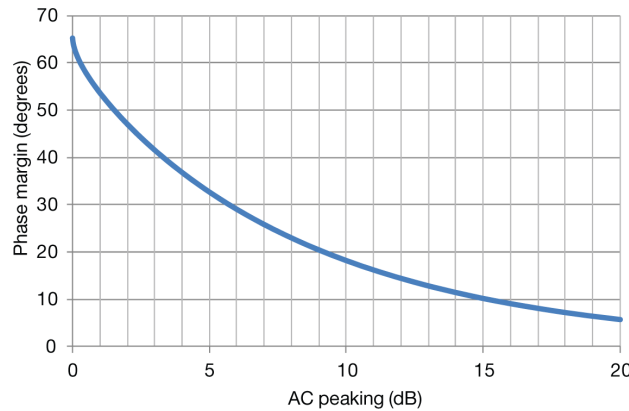

Figure 48. Stability – phase margin vs. peaking for a two-pole system
- Use AC peaking in decibels to determine phase margin using Figure 48